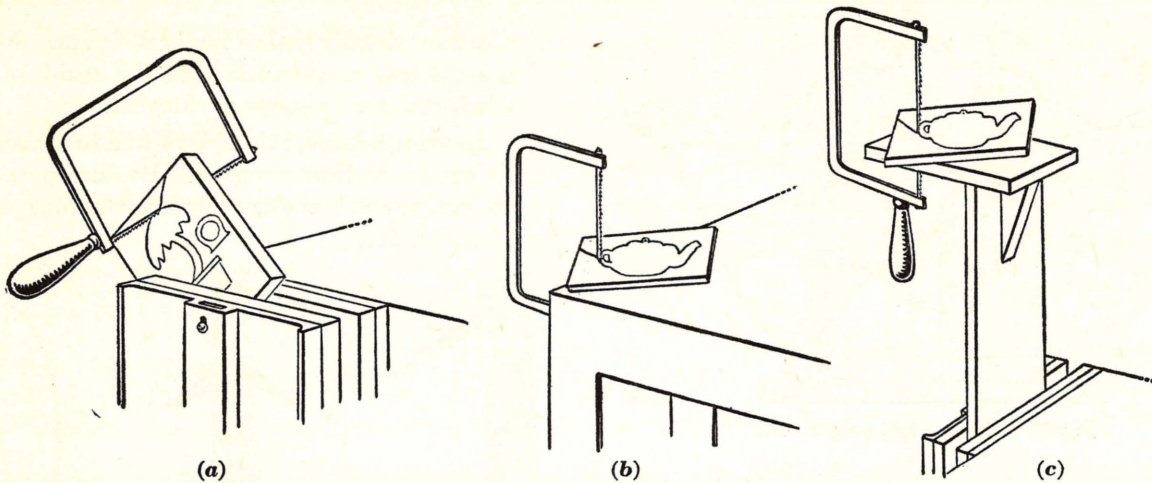

Fig. 36—Using a coping saw. (a) In a vise. (b) On the bench top. (c) On a special Vee block holder.
3. Saw the board to shape with a coping saw. The wood may be held in a vise, flat on the top of the bench with the line to be sawed extending over the edge, or on a saw block. Be sure to hold the saw in a perpendicular position while sawing, so the edges will be straight. (See Fig. 36, a, b, and c.)